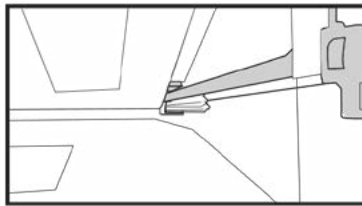

Figure 2
- Using care to not scratch the inside of the refrigerator, place the gaps located at the bottom rear corners of the crisper onto the small extension pieces located at the rear corners of both rails (see *Figure 2*, red arrow).